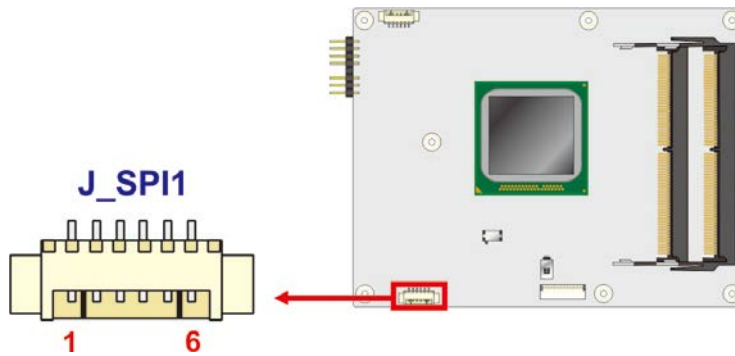

Figure 3-9: BIOS SPI Flash Connector Location
- CN Location:** See **Figure 3-9**